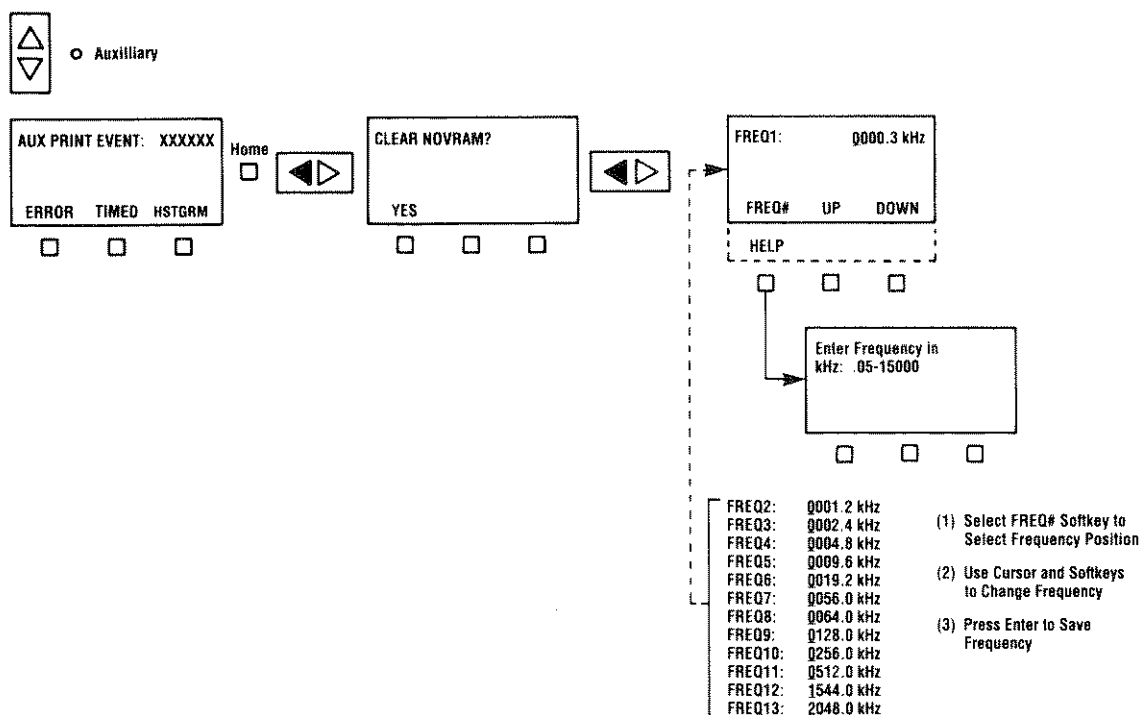

Figure 4-11
All 13 fixed frequencies listed under the Generator Clock INTERNAL FREQ menu can be changed from the Optional Auxiliary Fixed Frequency Editor menu (FREQ). The menu is only available when the optional frequency synthesizer is installed. It is used to re-order the fixed internal frequencies or change them to application-specific frequencies. Figure 4-11 shows how to access the FREQ menu.
- (1) Select the AUXILIARY category. If necessary, press the HOME key, then press the left SETUP SELECT arrow switch until the Auxiliary Frequency menu appears (see Figure 4-11).
- (2) Press the **FREQ#** softkey to select the frequency to be changed. Note that the FREQ number and displayed frequency change as the **FREQ#** softkey is pressed.
- (3) Use the cursor keys and the **UP** and **DOWN** softkeys to change the displayed frequency.
- (4) When the appropriate frequency is keyed in, press the ENTER key to save the frequency.